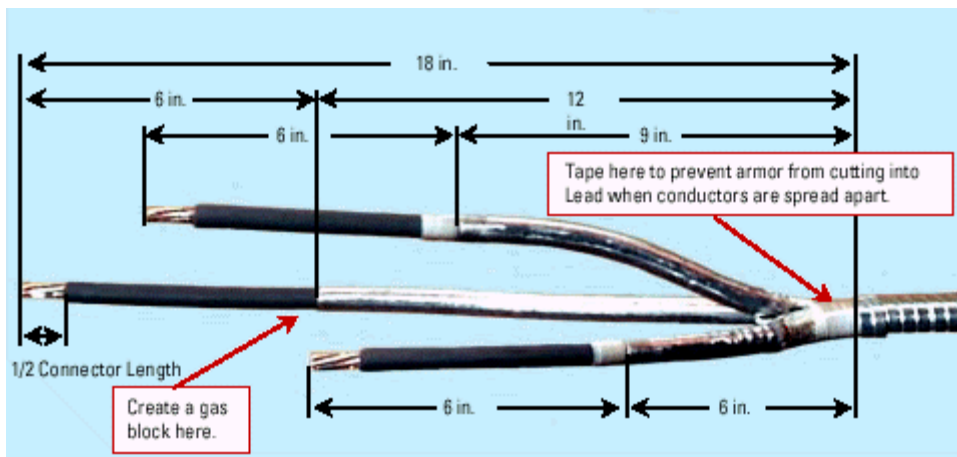

Figure 5-29: Conductor preparation for lead jacket cables and motor lead extensions
2. Remove the armor to the dimension shown in Figure 5-29. Do not cut into the lead jacket. Remove any burrs or sharp edges on the cut.
3. Using high-modulus tape, tuck a single wrap underneath the armor followed by two or three wraps extending 1 in (25 mm) out around all three conductors as shown in Figure 5-29. This tape will help protect the lead when the conductors are spread apart.
4. On cables incorporating a Tedlar® tape and braid such as ELTB and KELTB, use scissors to terminate the braid 1 in (25 mm) from the armor and the Tedlar tape 3 in (76 mm) from the armor. Seal the Tedlar to the jacket using two wraps of high-temperature tape as shown in Figure 5-29.
5. Remove the lead jacket in accordance with the dimension shown in Figure 5-29. Use extreme care not to damage the insulation.
6. Cut the conductors with a hacksaw back to lengths shown in Figure 5-29.
7. Obtain the appropriate splicing sleeves. Descriptions and part numbers for the sleeves are shown in the *Splicing Sleeves* table in the *Parts, Tools and Materials* section. Remove the insulation to the dimension shown in Figure 5-29.
10. Prepare the end of the cable to be spliced. Spread the conductors apart slightly and place the cable ends together such that one conductor on the second cable butts against the shortest conductor on the first cable. Mark the other two conductors and cut where indicated. (Refer to Figure 5-29.) After cutting, check to ensure all three conductors butt up to each other when placed tightly together.